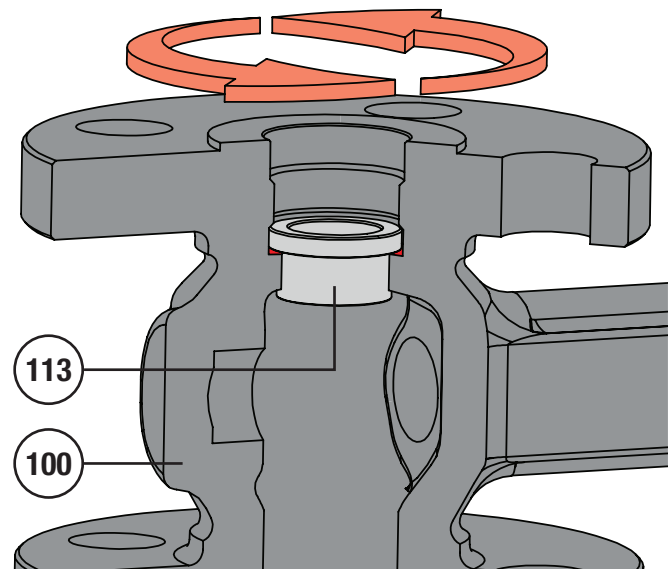

Figure 38 Body-to-Seat Ring Lapping Action
- 2 Install the seat ring (Key 113) and lap gently by rotating the seat ring back and forth against the surface of the valve body (Key 100). Every so often, gently pick up the seat ring and rotate it 180° and continue lapping. **NOTE:** If require, for smaller sized valves, it may be possible to construct a tool out of a rubber stopper to hold the seat ring in place and make lapping action easier. Refer to Figure 38.